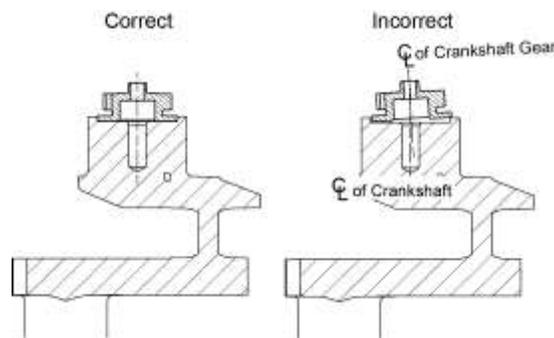

Figure 44
⚠ CAUTION: FOR CORRECT ENGINE OPERATION, THE CRANKSHAFT GEAR MUST BE INSTALLED CORRECTLY WITH NO GAP BETWEEN THE MATING SURFACES OF THE COUNTERBORED-END OF THE CRANKSHAFT AND THE CRANKSHAFT GEAR PILOT FLANGE (FIGURE 44).
- (9) With a hammer and brass drift, tap lightly around the pilot flange of the crankshaft gear and listen for sharp solid sounds from the hammer blows that would indicate that the crankshaft gear is seated against the crankshaft.
- (10) Make sure the crankshaft gear seats firmly and is perpendicular (not at a slanted angle) to the crankshaft as shown in Figure 44: